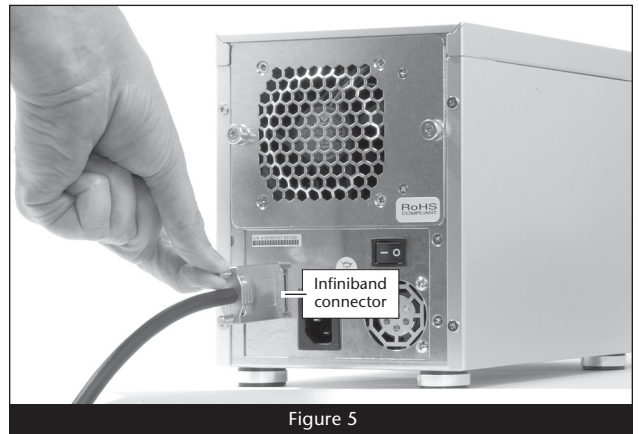

Figure 5
1. Connect the Infiniband end (with thumbscrews) of the supplied data cable to the Infiniband port on the enclosure; use the thumbscrews to secure the connector (Figure 5).
2. Connect the mini-SAS end of data cable to a port on the Sonnet RAID controller card; verify the connector is plugged in securely (Figure 5).